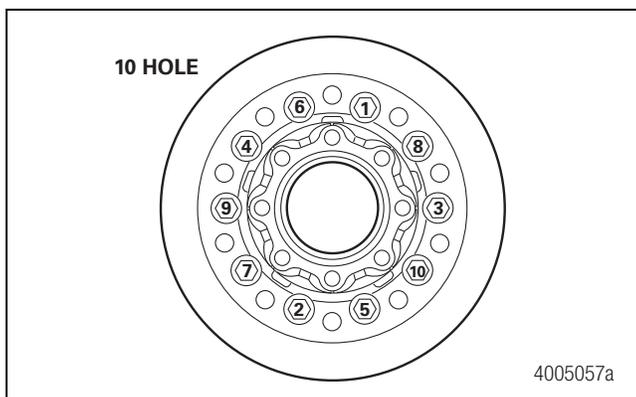
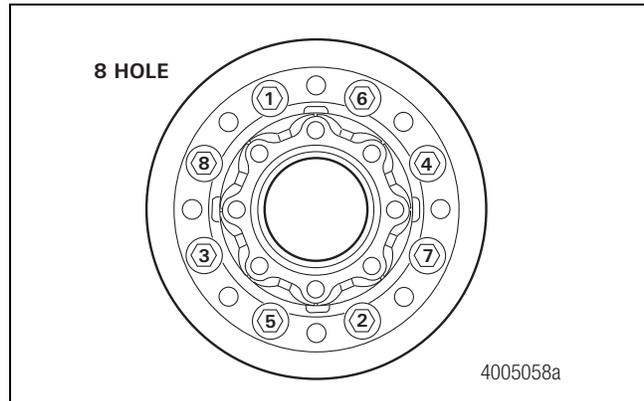

Figure 6.10
Figure 6.11
7. Tighten the hub-to-rotor bolts in a crisscross pattern to the correct torque. Refer to Section 8. Figure 6.10 or Figure 6.11.